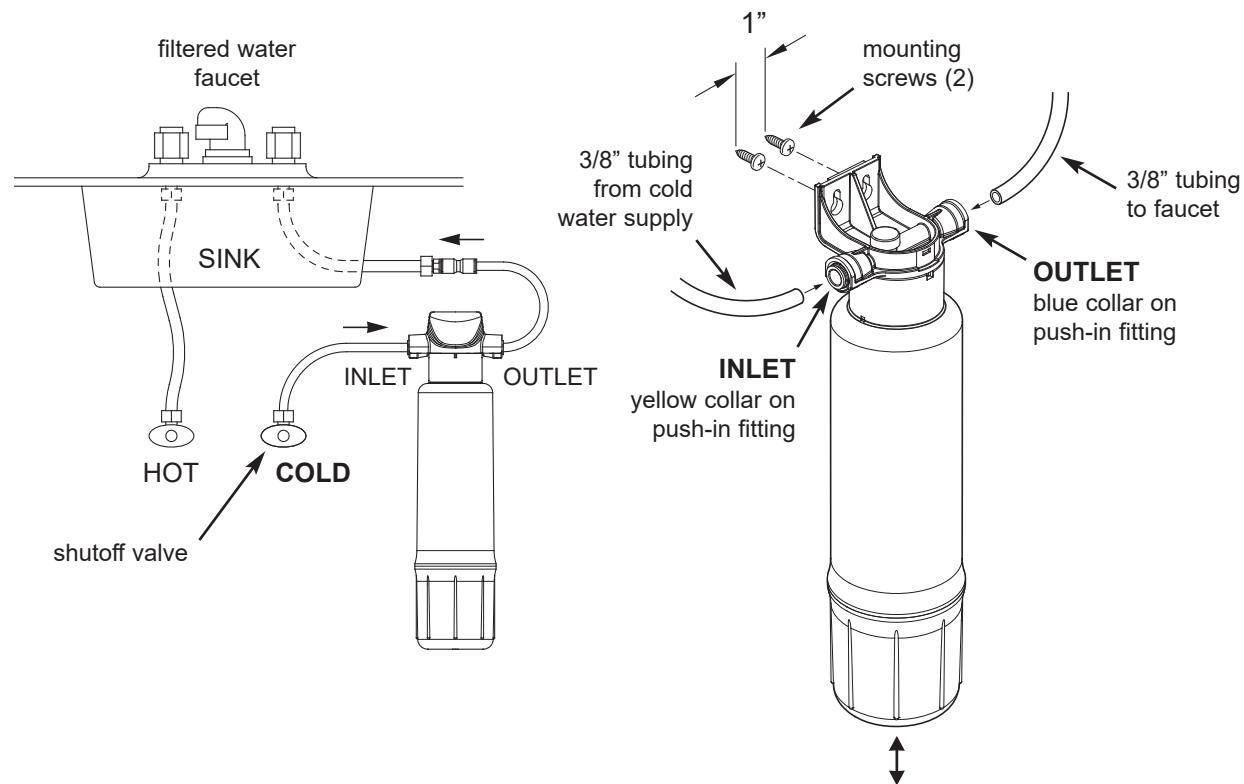

FIG. 2
1. Locate the piece of supplied 3/8" tubing not used previously. Route it between the union connector and the filter system outlet (See Figures 2 & 3). Allowing some slack, measure and cut to length. Cut the ends of the tubing square.